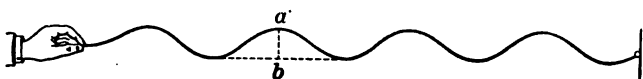

FIG. 115
*Transverse* vibration is shown in Fig. 115. A cord or rope, fastened at one end, is set in vibration by a movement of the hand. Any vibrating particle does not move